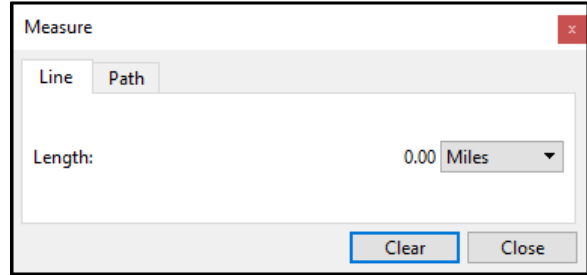

Figure 41. The Measure Tool
1. Open the Measure Tool (Figure 41) by clicking the  button on the toolbar or selecting Measure Tool from the View menu of the Main Window (Figure 1).